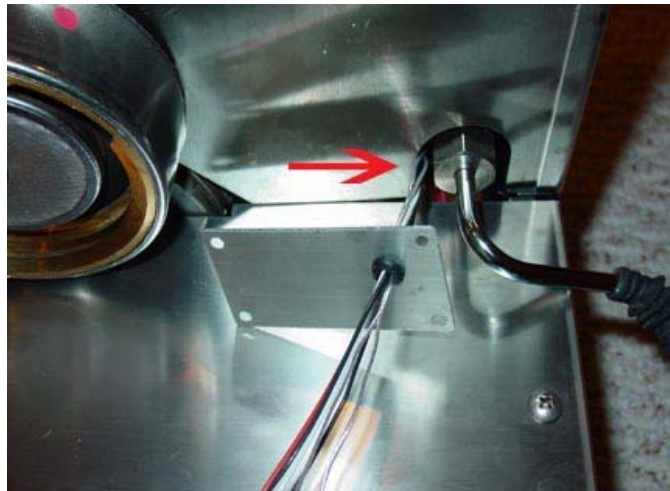

Figure 16, Cables going through the back panel of the controller box.
- 3) Install the splash guard panel back to its original position (figure 8 above). Feed the two SSR output cables into the boiler compartment. Feed the SSR input cables (the thin red and white ones) to the outside through the space around the steam wand (Fig 16 below)
- 2) Fit the controller power cables and RTD sensor cables to the outside through the gap around the steam wand (red arrow in Fig. 16). Collect the SSR control cables from the back of the splash guard pane. Fit all cables through the rubber grommet on the back panel of the controller box. Make sure the direction of the back panel is as shown in figure 16. The surface with countersunk screw hole is the outside surface. Cables should come from the outside surface to the inside. You need to fit the cables through the grommet one at a time. There are six cables total.